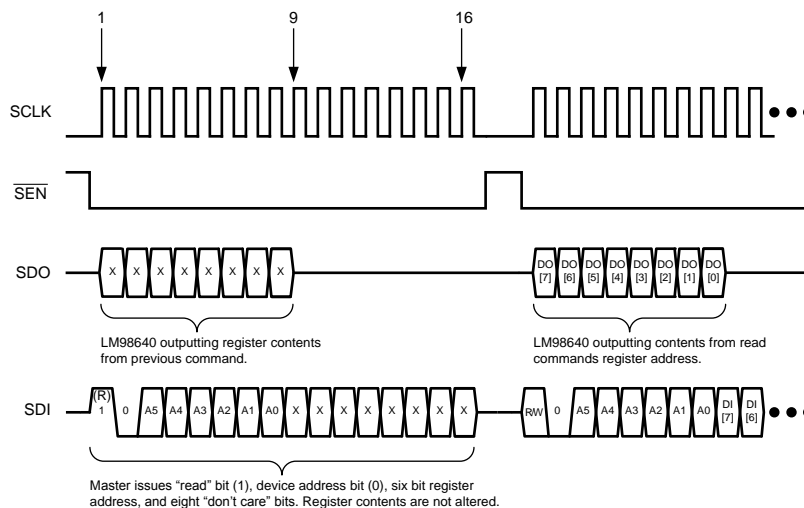
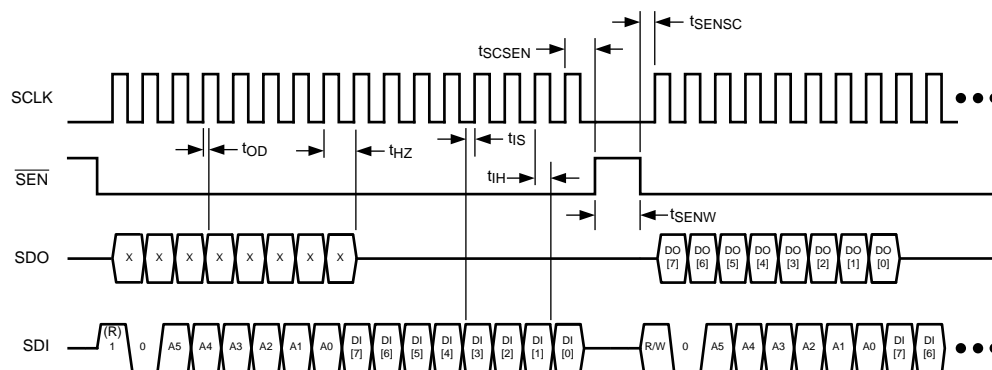

Figure 29. Four Wire Serial Read
Figure 30. Serial Interface Specification Diagram
To read to the serial registers using the four wire interface, the timing diagram shown in Figure 29 must be met. Reading the registers takes two cycles. To start the first cycle, $\overline{\text{SEN}}$ is toggled low. At the rising edge of the first clock, the master should assume control of the SDI pin and begin issuing the read command. The read command is built of a "read" bit (1), device address bit (0), six bit register address, and eight "don't care" bits. SDI is clocked into the LM98640QML at the rising edge of SCLK. $\overline{\text{SEN}}$ is toggled high for a delay of at least t_{SENW} (see Figure 30). The second cycle begins when $\overline{\text{SEN}}$ is toggled low. The LM98640QML assumes control of the SDO pin during the first eight clocks of the cycle. During this period, data is clocked out of the device at the rising edge of SCLK. The eight bit value clocked out is the contents of the previously addressed register. The next command can be sent on the SDI pin simultaneously during this second cycle. When $\overline{\text{SEN}}$ toggles high, the register is not written to, but its contents are staged to be outputted at the beginning of the next command.